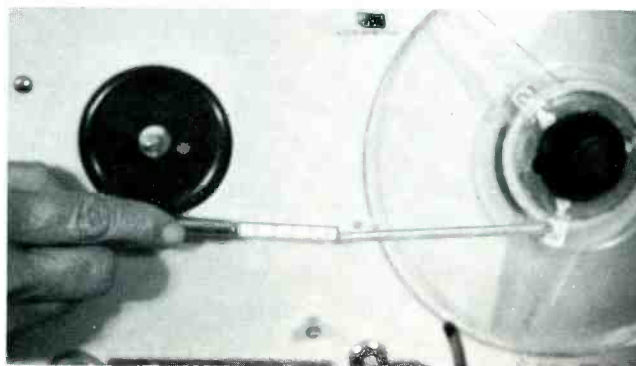

Fig. 16 Torque measurement.
1. With reference to Fig. 16, a standard plastic reel (or a measuring hub) can be employed. If the hub diameter is exactly 2 inches, the spring scale will read directly in ounce-inches of torque. Reels with smaller hubs can be brought up to 2 inches diameter by winding on sufficient tape. However, if a diameter other than 2 inches is utilized, multiply the spring scale by the hub radius to find the torque value in ounce-inches.